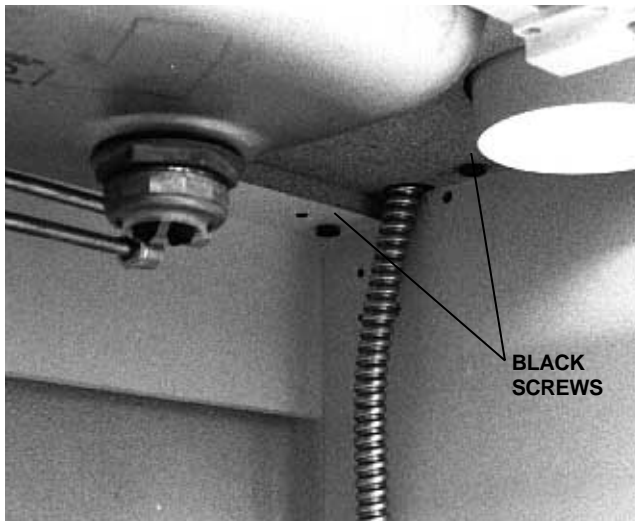

FIGURE 11
- Loosely install the four black 1/4-20 x 50 mm (approx. 2") screws, from Kit No. 55.1782.00, up through the lower module and into the upper module (see Figure 11).